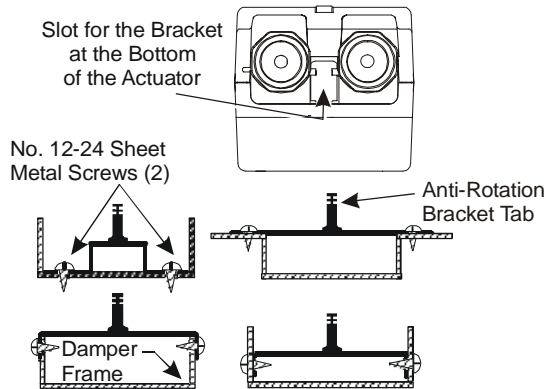

Figure 5: Fitting the Anti-Rotation Bracket on the Damper Frame or Duct
1. Bend or cut the anti-rotation bracket to fit the damper frame or duct as illustrated in Figure 5.
3. Position the tab of the anti-rotation bracket into the slot at the bottom of the actuator as illustrated in Figure 5.